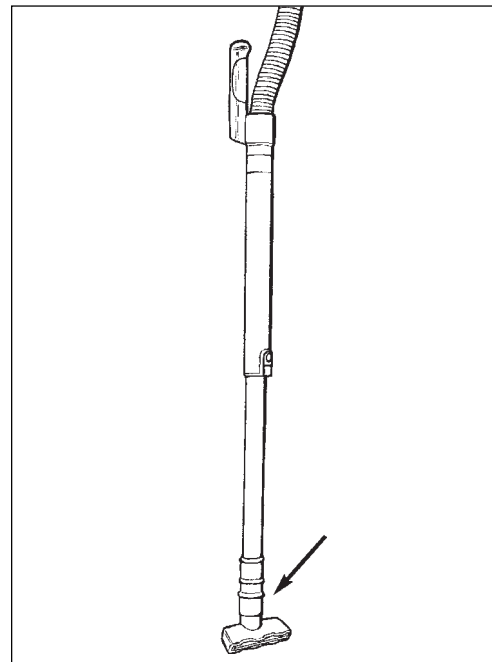

Figure 15
4. Connect an accessory tool to the end of the wand, or directly to the hose (see figures 15 and 16).